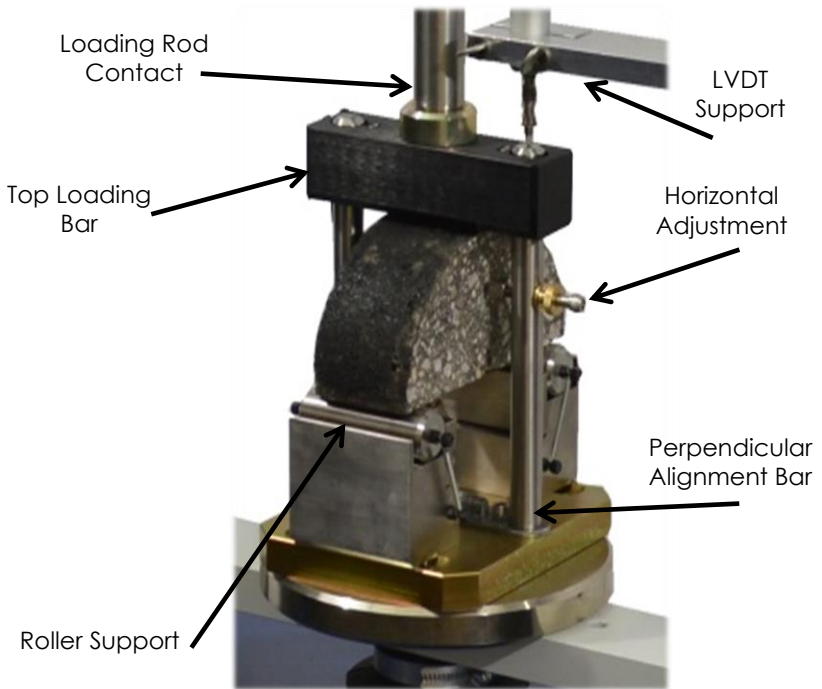

Fig 5. SCB Jig with Asphalt Specimen
4. Insert a specimen into the test jig (Figure 5).